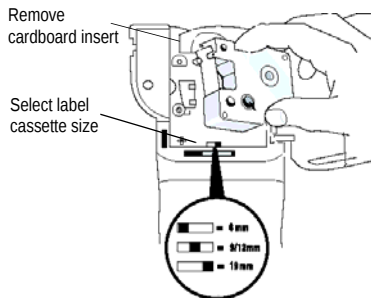

Figure 5
The first time you use the labelmaker, remove the protective cardboard insert from between the print head and pinch roller. See Figure 5.
2. Set the cassette switch for the size of the label cassette that you are inserting. See Figure 5.